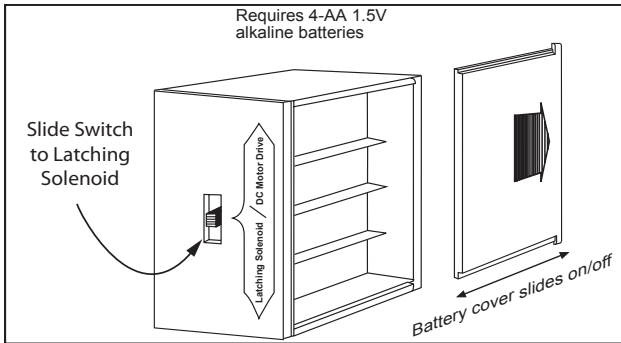
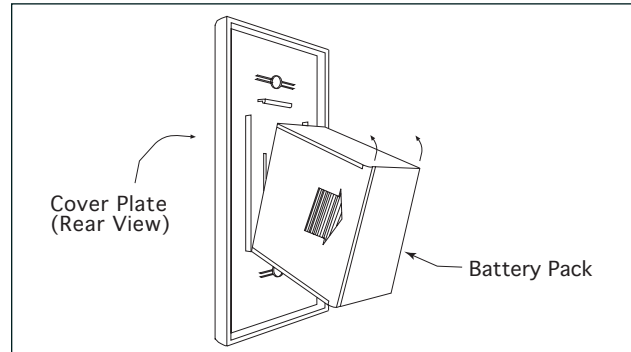

Fig. 5. Slide switch on latching solenoid
Fig. 6 Cover plate installation
7. Normal operation of the fire pit is with a battery pack that is supplied with your system (Fig 5). The battery pack has 12-feet of black sleeved wire that is to be passed through the junction box provided. This wire should not be cut or spliced and the junction box can be placed in the facing of the vertical finish of the fire pit, if you place the wire under ground you should install those wires into an approved protective conduit/sleeve material.
4. Install the (4) AA batteries in to the battery compartment shown in figure 5. Double check to ensure the slide switch is in the Latching Solenoid position on the battery pack. Then snap cover plate in place as shown in fig.6.